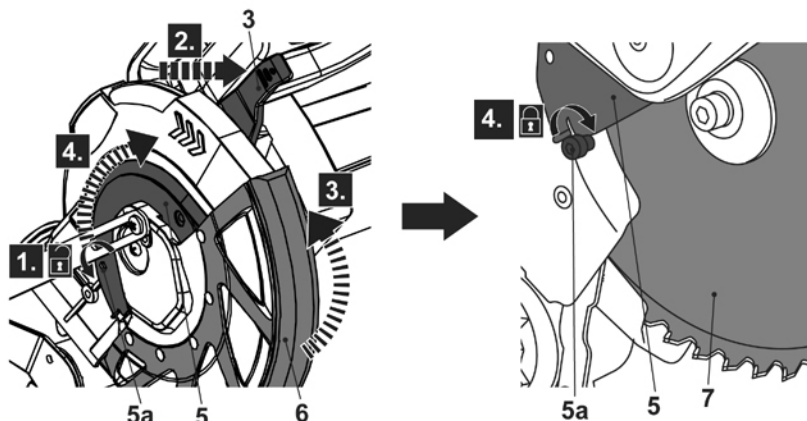

Fig. 10
- > Loosen the screw (5a) on the guard mounting plate (5) with the provided tool (28) (Fig. 10, step 1) and remove it from the product.
- > Press the blade guard release lever (3) (step 2) and then rotate the guard mounting plate (5) and lower retractable blade guard (6) upwards (step 3).
- > Reattach the screw (5a) (step 4) to hold the guard mounting plate and expose the saw blade (7).